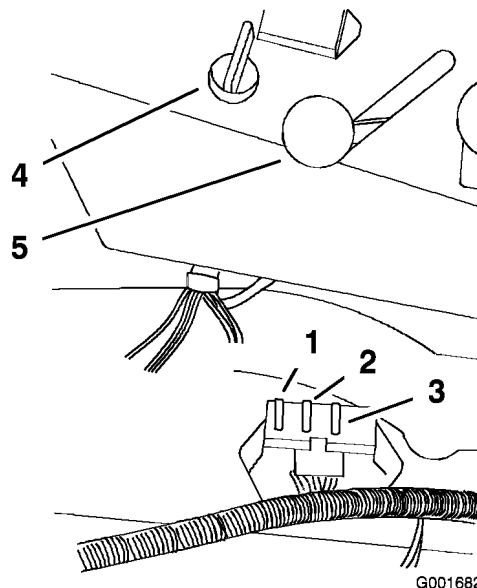

Figure 42
1. Raise the seat to gain access to the fuse holder (Figure 42).
3. Install a new fuse (Figure 42).